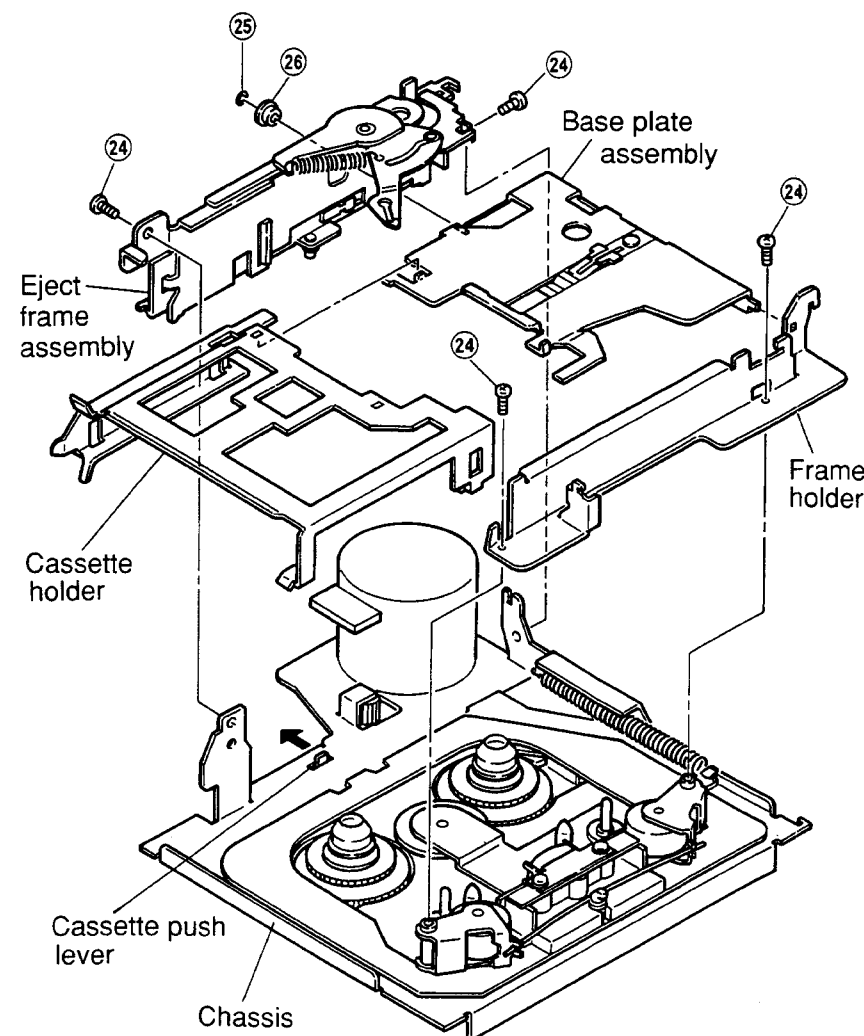

Figure 17
- (1) Remove four screws (24) and remove the eject frame assembly and the frame holder as shown in Figure 17.
- (2) Remove M1.2 lock washer (25) and plate base roller (26) and remove the cassette holder and the base plate assembly as shown in Figure 17.
- (3) Remount them following the removal steps in the reverse order.
2. When mounting the eject frame assembly, push the cassette push lever in the direction indicated by the arrow in the Figure 17.